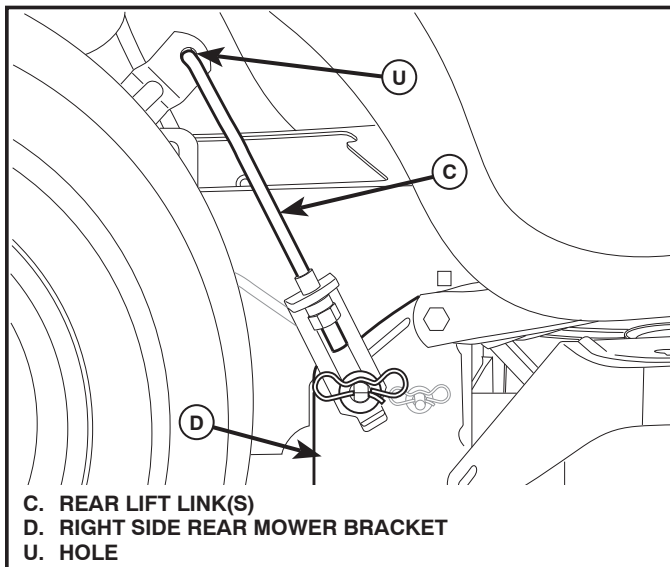

Fig. 34
7. ATTACH REAR LIFT LINKS (C) (See Fig. 34)
- Insert rod end of rear lift link (C) into hole (U) in tractor lift shaft suspension arm and pivot link down to mower.
- Lift rear corner of mower and position slot in link assembly over pin on rear mower bracket (D) and secure with large washer and large retainer spring.